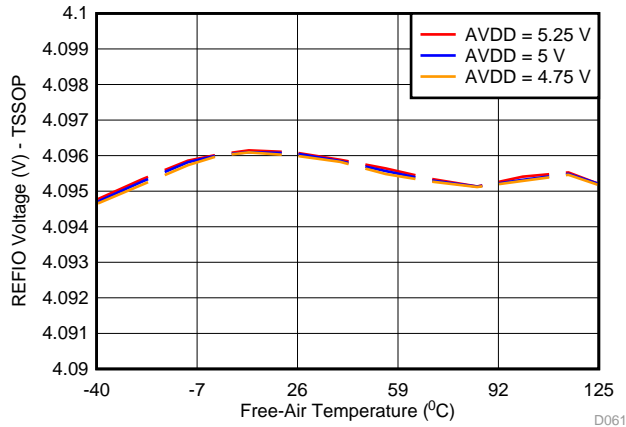

Figure 56. REFIO Voltage Variation Across AVDD and Temperature (PW Package)
The internal reference is also temperature compensated to provide excellent temperature drift over an extended industrial temperature range of -40°C to $+125^{\circ}\text{C}$. Figure 56 and Figure 57 show the variation of the internal reference voltage across temperature for different values of the AVDD supply voltage. Note that the temperature drift of the internal reference is also a function of the package type. Figure 58 and Figure 59 show histogram distribution of the reference voltage drift for the TSSOP (PW) and WQFN (RUM) packages, respectively.